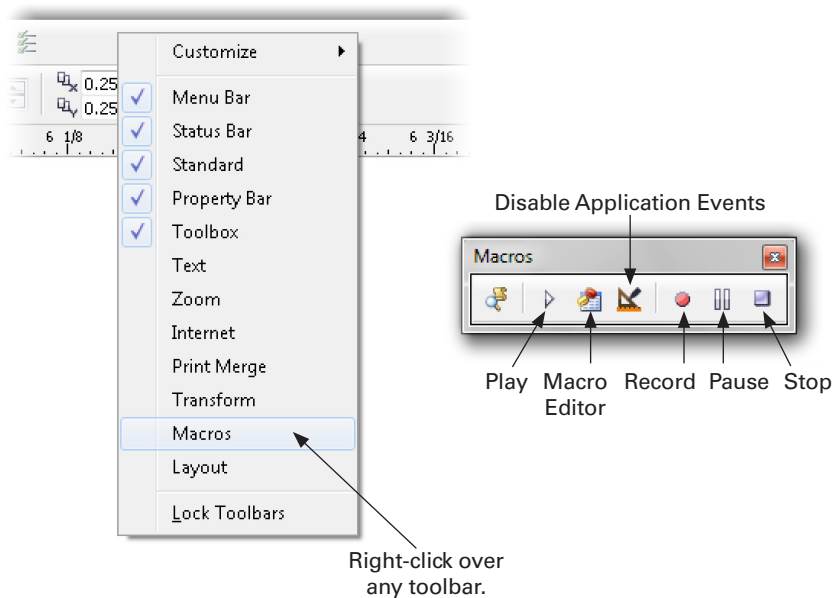

FIGURE 1 Use the Macros Toolbar much in the same way you use any onscreen or even physical recording device. The buttons are labeled with universal symbols.
3. Right-click on any of the toolbars at the top of the application window. From the pop-up menu choose the Macros Toolbar. The list of macro commands is shown in Figure 1. The Tools | Macros commands can be used to record a macro, but it's easier to use the Macros Toolbar.